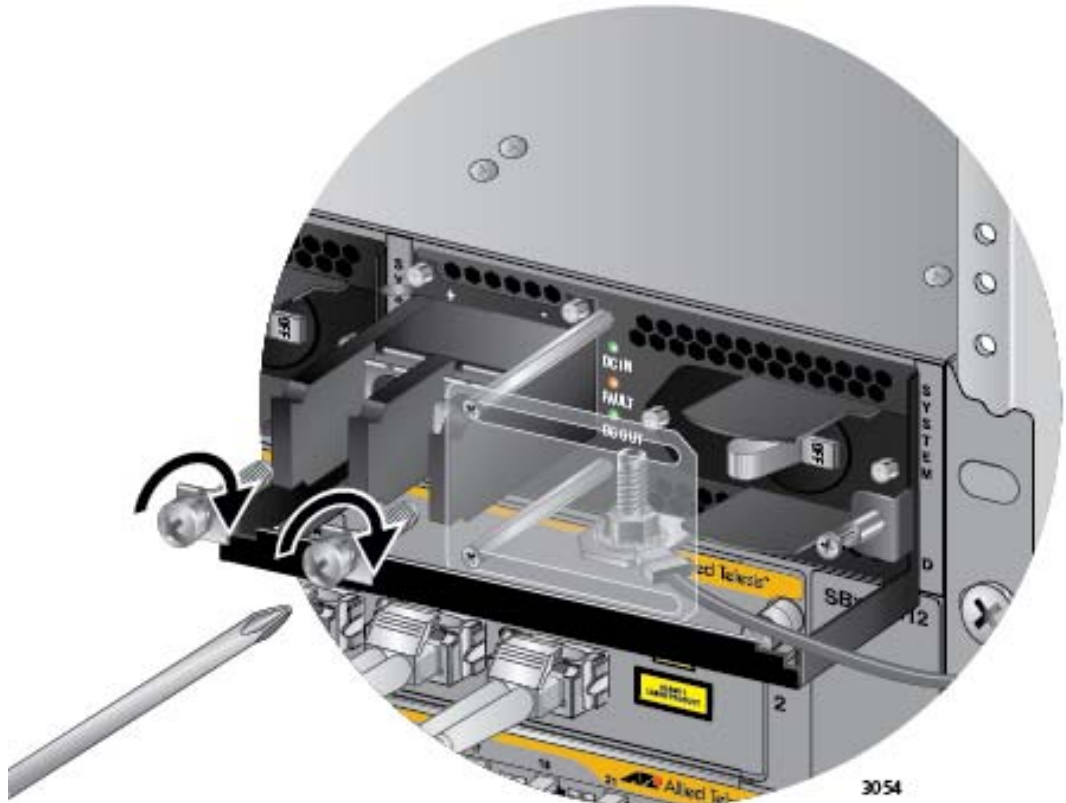

Figure 149. Reinstalling the Screws on the Positive and Negative Terminals
7. Reinstall the two screws on the negative (-) and positive (+) terminals. Refer to Figure 149 on page 231.